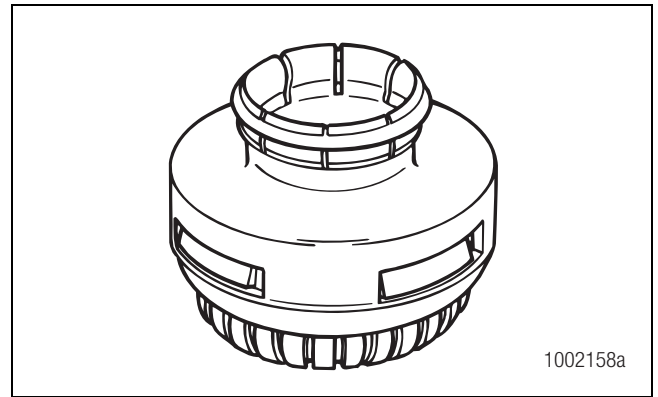

Figure 1.24
**Purge Silencer:** Optional part for all WABCO air dryers. It is used to reduce the noise level of an air dryer purge. Figure 1.24.